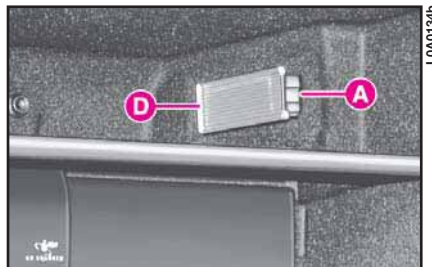

fig. 36
1) Remove the lens by using a screwdriver as a lever on clip **A** (fig. 36).
5) Refit the lens by inserting side **D** (fig. 36) first and then pressing the other side to engage clip **A**.